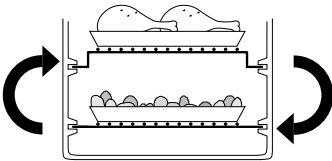

fig. 1
2. Around halfway through cooking, **exchange the position** of the 2 dripping pans, placing the top one on the lower wire rack and vice-versa, fig. 1.